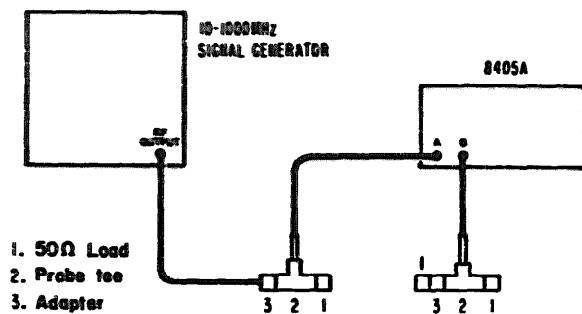

Figure 1. Channel Isolation Check
1. With signal source output at a minimum, connect equipment as shown in Figure 1.
1. Set up equipment as shown in Figure 1 and adjust signal source for 1 mV output.